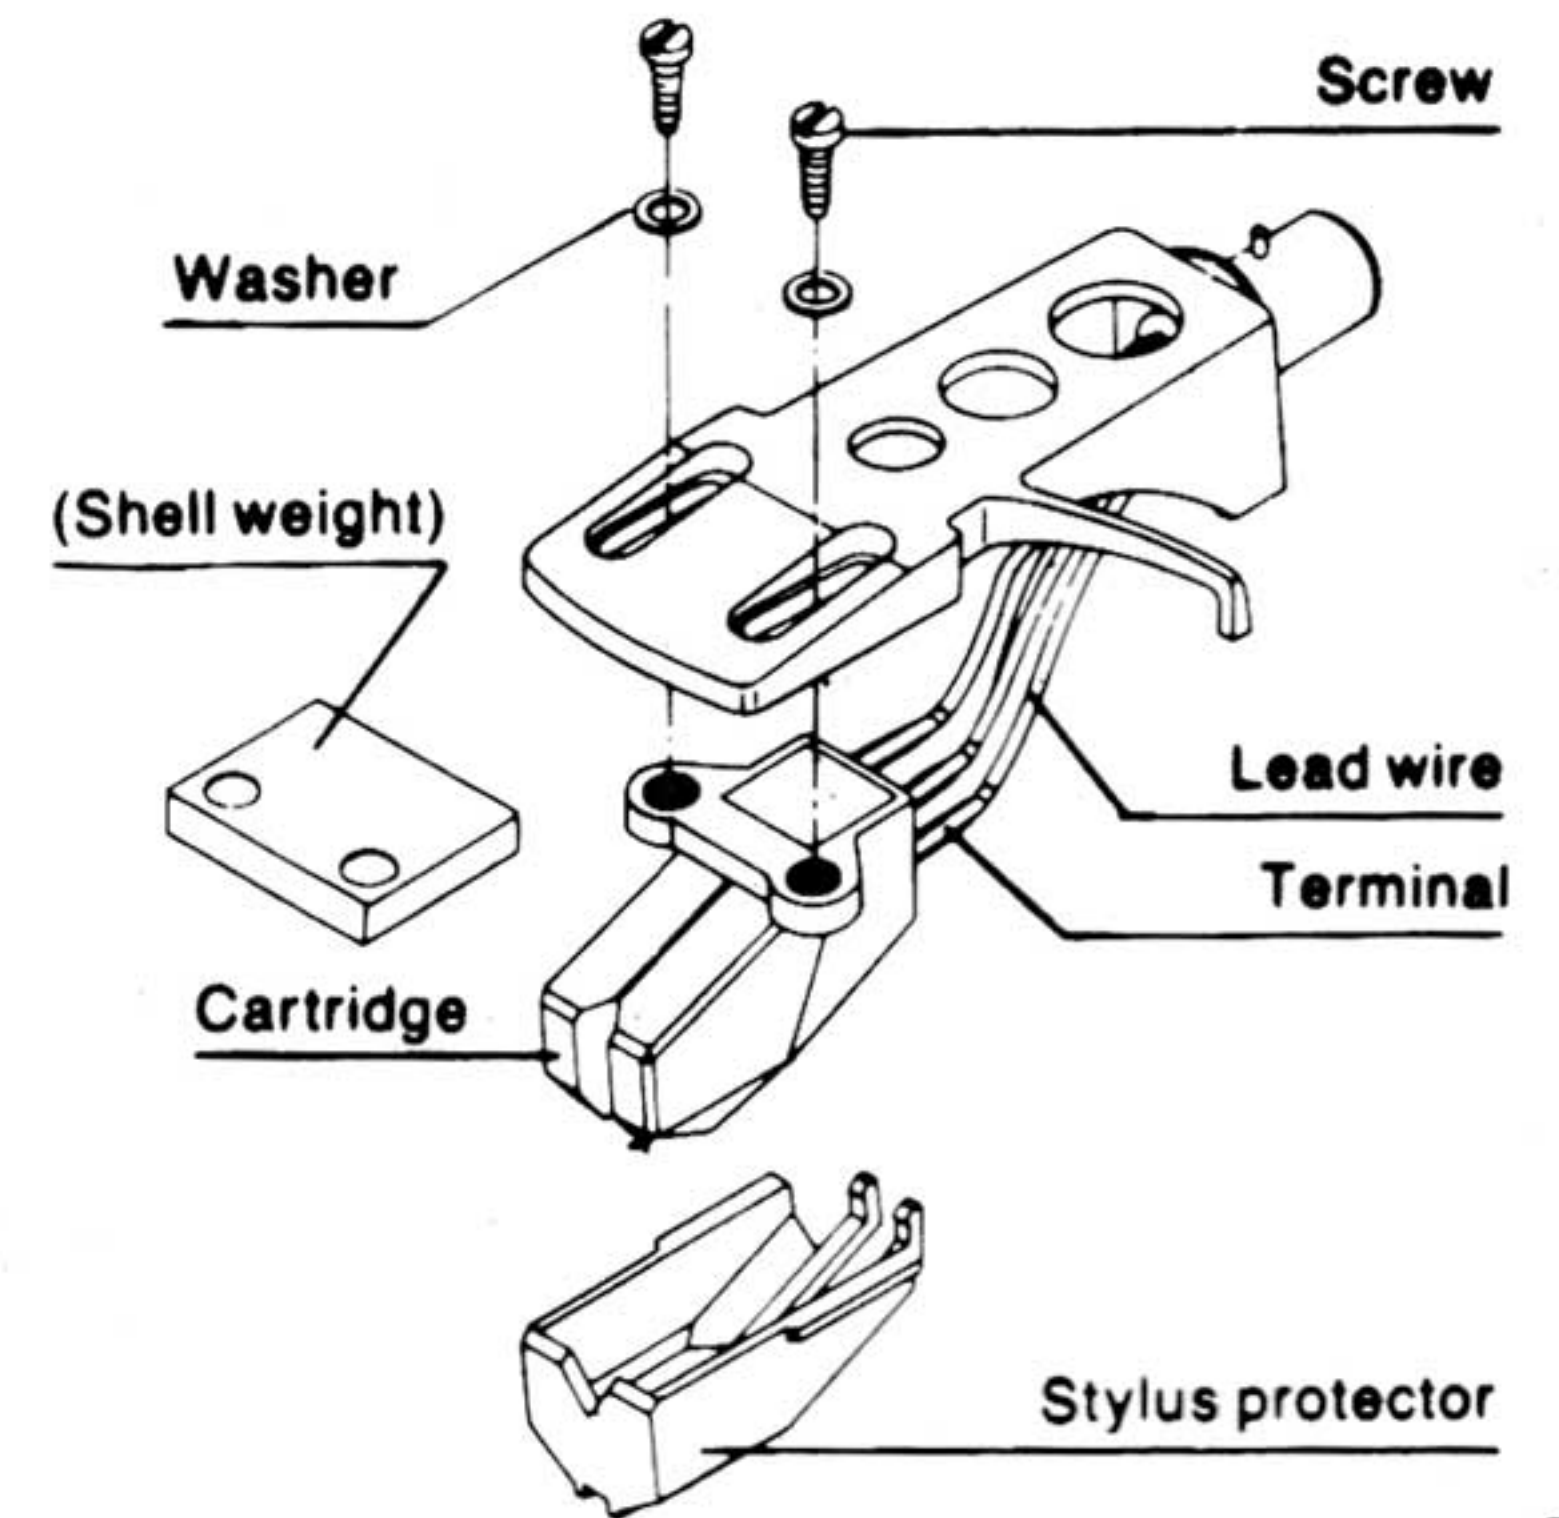

Fig. 8
2. Mount the cartridge in the headshell using the screws provided with the cartridge. (Fig. 8)